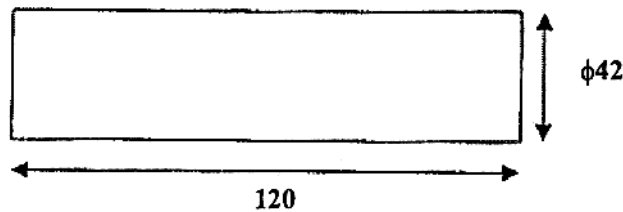

Fig. 12 (a)(ii)
- (b) (i) Enumerate with neat sketch, measurement of cutting temperature using work-tool thermocouple method. (6)
- (ii) Describe various methods of applying cutting fluid at the cutting zone. (7)
12. (a) (i) Enumerate with neat sketch, constructional features of a centre lathe. (8)
- (ii) For the component (C40 steel) shown in Fig. 12 (a)(ii), the feed for roughing is 0.24 mm/rev while that for finishing is 0.10 mm/rev. The maximum depth of cut for roughing is 2 mm. Finish allowance may be taken as 0.75 mm. Blank to be used for machining is 50 mm in diameter. Calculate the power required for roughing and finishing passes. (5)